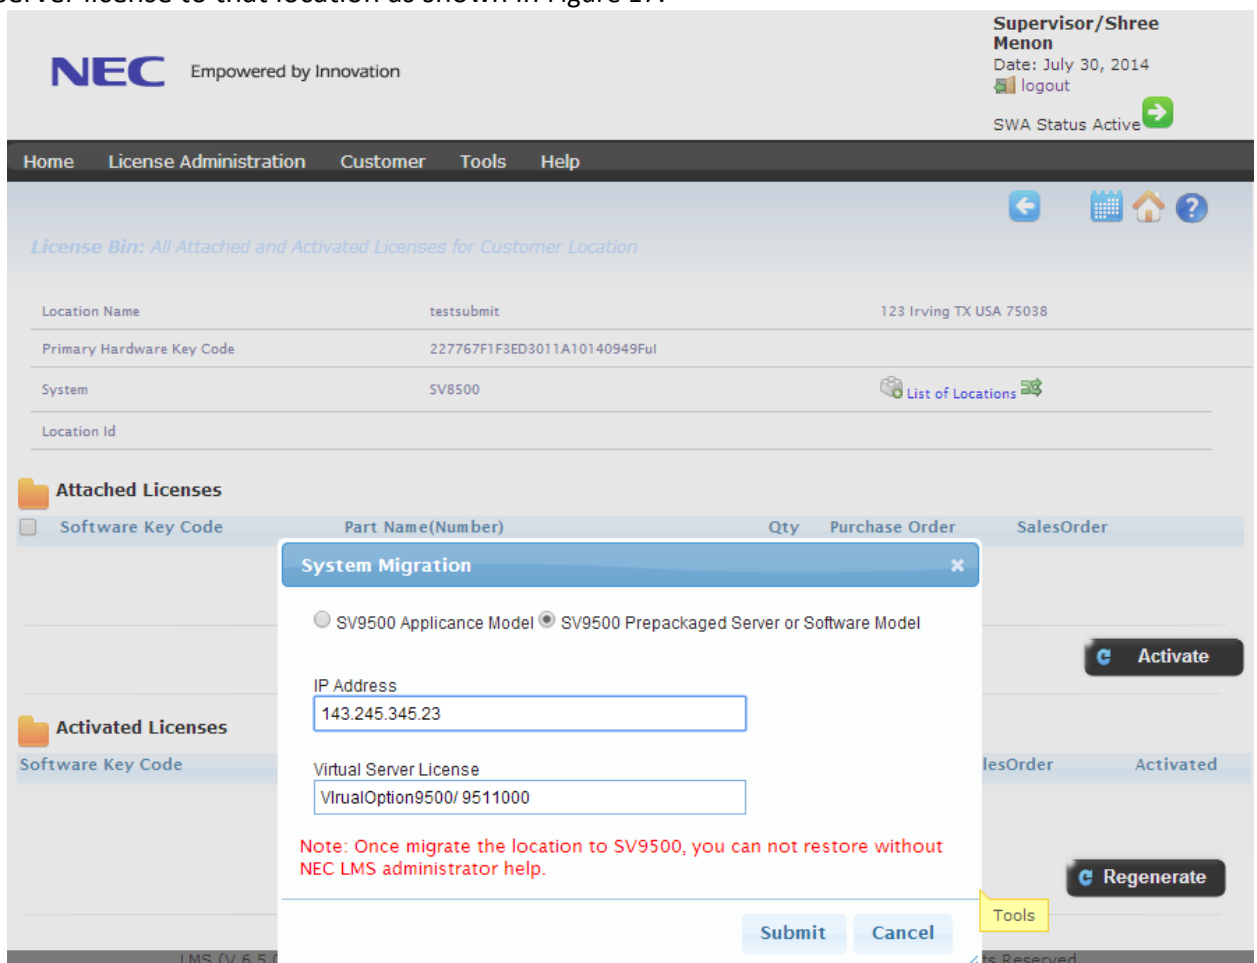

Figure 16
NOTE: If the option of Software Model (SV9500 Prepackaged Server or Software Model) is selected, the user will be prompted to enter the IP address of the new PBX. The system assumes there is a Virtual Server License available as this is a required license for conversion to Software model (Figure 16). Based on this information, the LMS creates a location and generates a Virtual Hardware Key Code.
- a) If the Virtual server license is available in the SV8500 license bin to attach and activate on SV9500 location, then the LMS automatically populates the information as shown in Figure 16. Otherwise it shows a message which will request the user to ship the virtual server license to that location as shown in Figure 17.